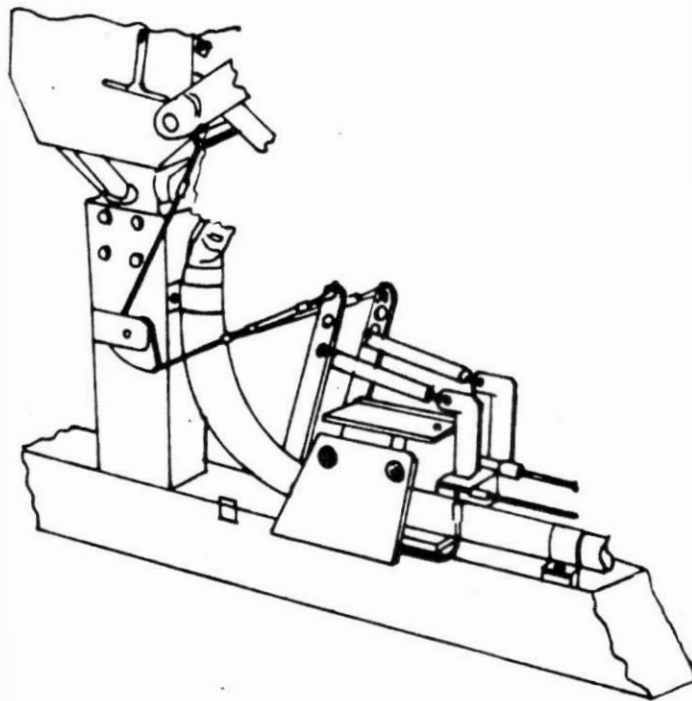

FIGURE 8-10 1G TRAINER BRAKE LINKAGE
- (1) Maintain horizontal position of the yoke (equalized load).
- (2) Adjust length until the brake pulley position is as shown in Figure 8-10. Maintain corresponding relative rotational position between pulleys.
- (3) Maintain clearance between the actuation lever and the master cylinder piston with clevis adjustment.
- (2) Adjust length until the brake pulley position is as shown in Figure 8-10. Continue adjustment, shortening cable length to maximum amount possible. Maintain corresponding relative rotational position between pulleys.